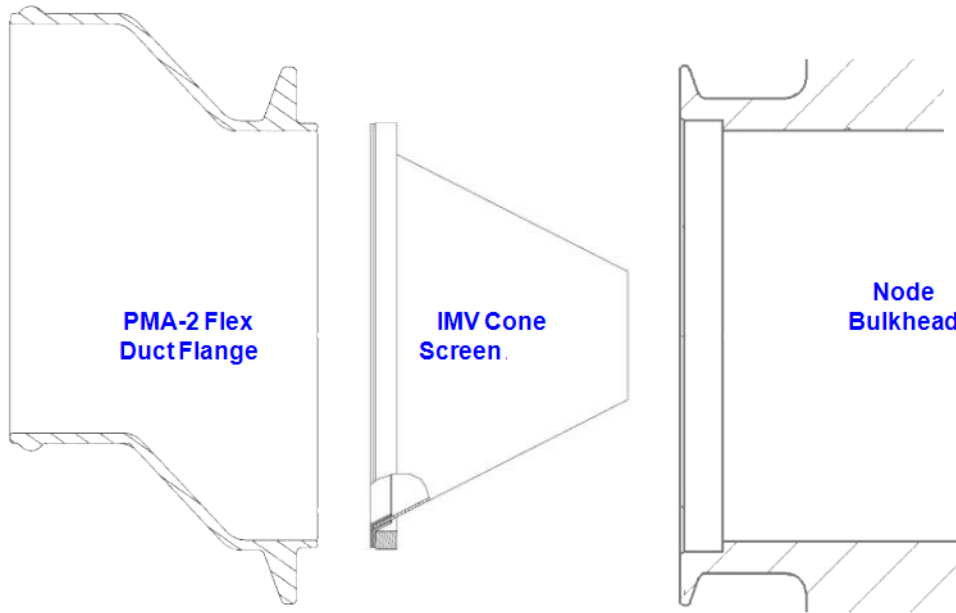

Figure 1.- IMV Cone Screen Assembly Orientation
10.4 Insert IMV Cone Screen with cone pointed into Node 2 Bulkhead Refer to Figure 1